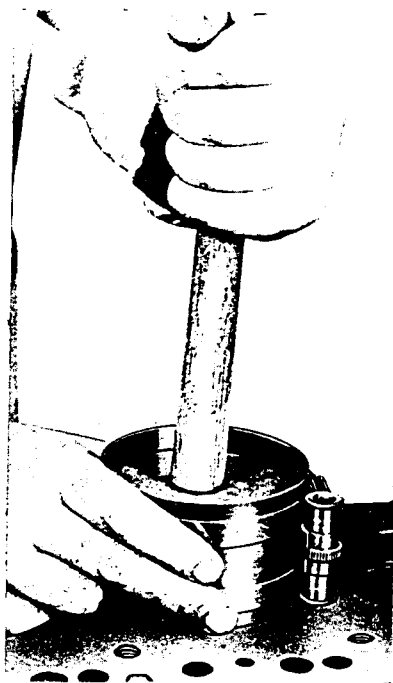
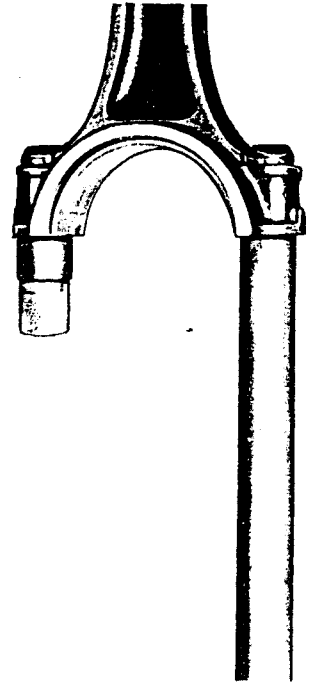

Figure 8-1-54
Figure 8-1-55
3. Install each piston in its respective bore, using tool J6305-01 on each assembly (see Figure 8-1-54). The side of the piston with the cast depression in the head should be to the front of the cylinder block and the oil hole on connecting rod towards the camshaft side of the engine. Guide the connecting rod bearing into place on the crankshaft journals with the long detail of tool J6305-01 (see Figure 8-1-55). Use J8037 to compress piston rings.